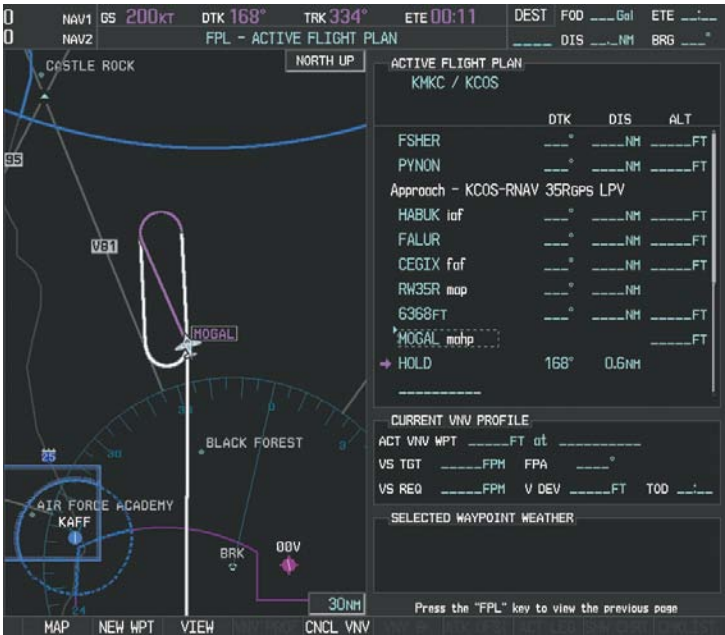

Figure 5-145 Establishing the Holding Pattern
26) The aircraft continues climbing to “AT or ABOVE” 10,000 feet at MOGAL. A holding pattern is established at the MAHP (MOGAL) as shown in Figure 5-145.